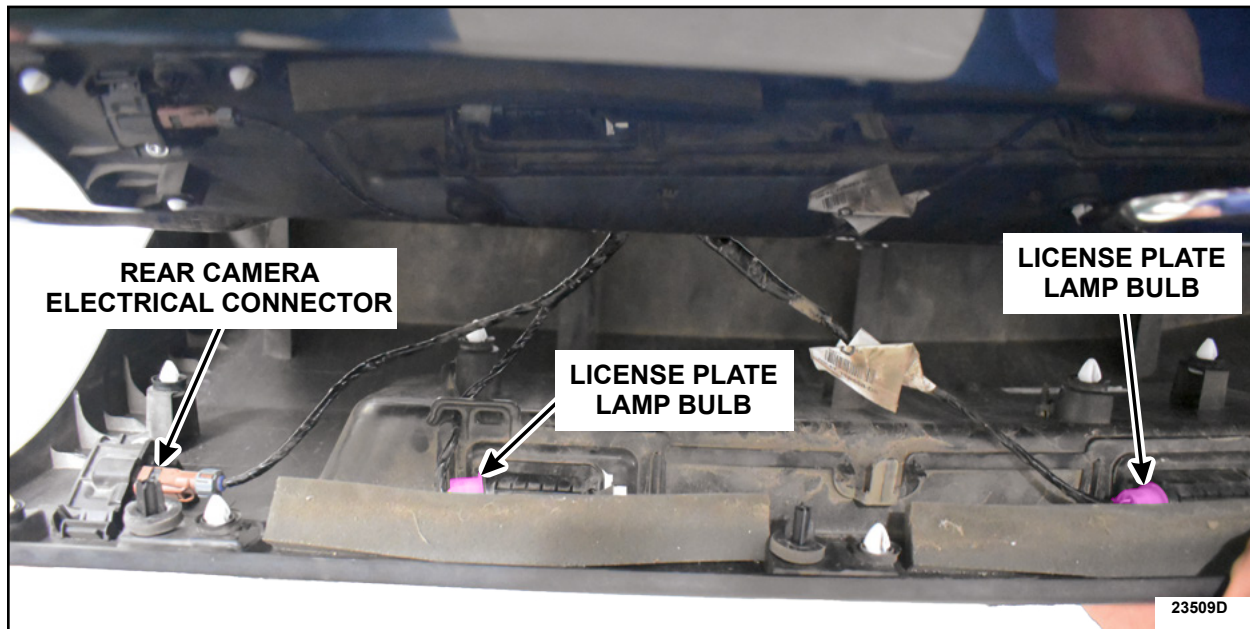

FIGURE 12
4. Install the license plate lamp bulbs and connect the rear camera electrical connector. See Figure 12.